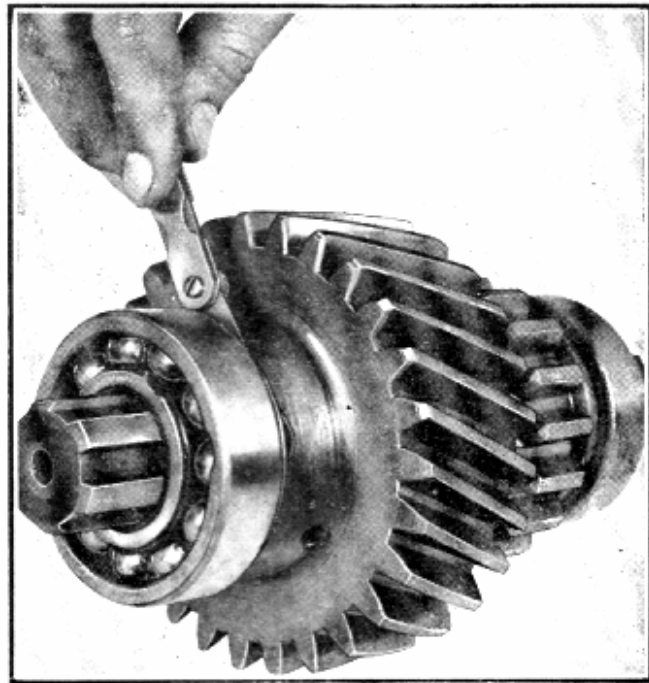

Fig. 24—Checking End Play of Main Drive Gear
8. Hold the thrust washer (84) against its seat on the shoulder of the shaft (86). With a feeler gauge measure the clearance between the hub of the main drive gear (78) and the thrust washer (84) as shown in Fig. 24. This clearance should be within the limits of .010"-.015".